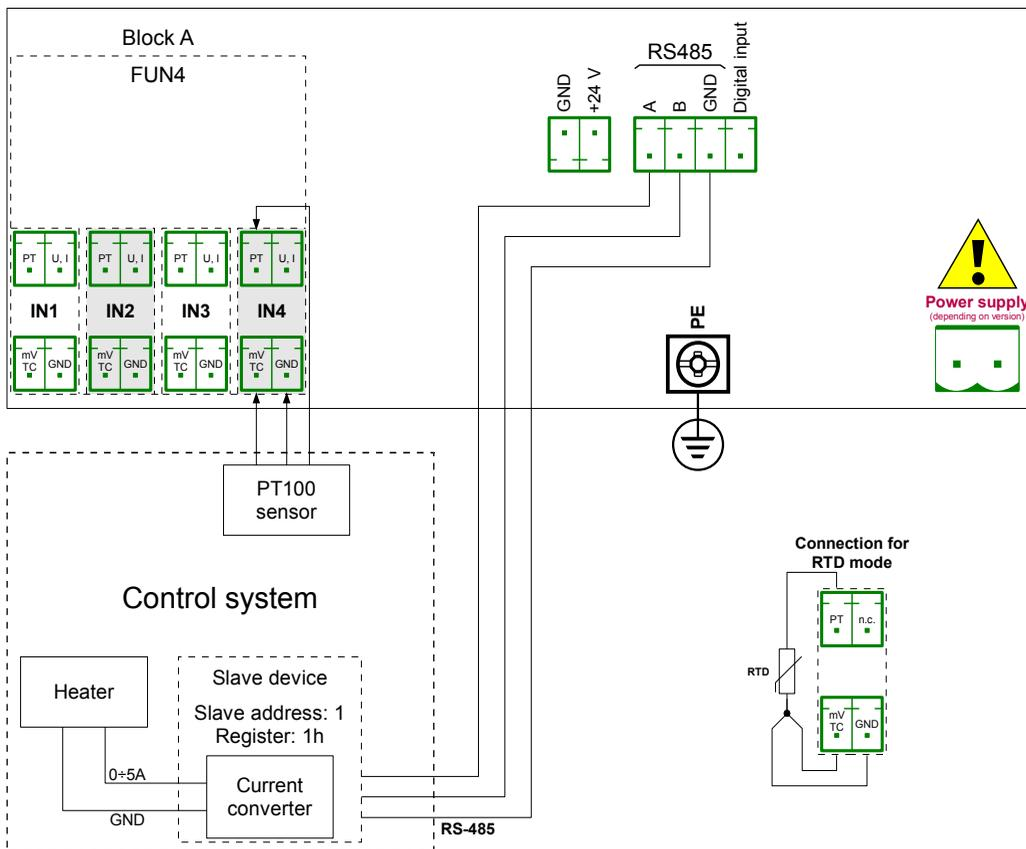

Fig. 7.70. Schematic diagram for the hardware configuration FUN4 and MB1 Modbus port
Before measuring and regulating the temperature, the user should configure the device as follows and then connect the RTD sensor and the Current converter to the device. An example of the connection is shown in **Fig. 7.70.**
- **Source** parameters set as **Inp.A4: Universal** (see Fig. 7.70),
- **Precision** parameters set as **0.00** , because with this precision we can send a signal from the controller to the Current converter (see Fig. 7.70),